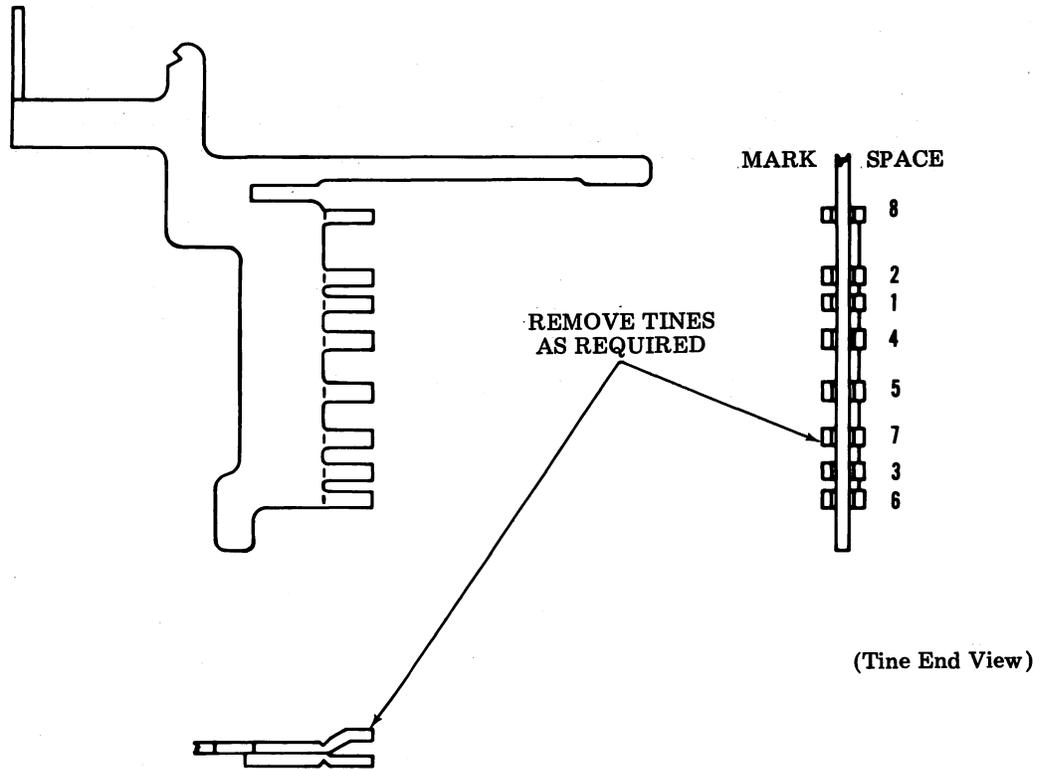

Figure 8 - Universal Function Blade TP195141
2.07 The universal function blade (Figure 8), supplied with the typing reperforator unit, may be coded for any character or shift condition required. The blade is coded by removing some tines and leaving others.